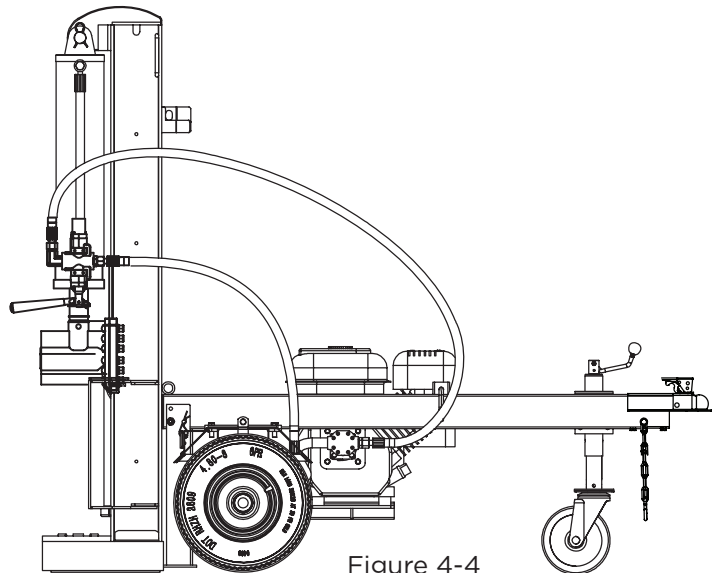

Figure 4-4
2. Stand in front of the unit to operate the control handle and to stabilize the log. See Figure 4-4.